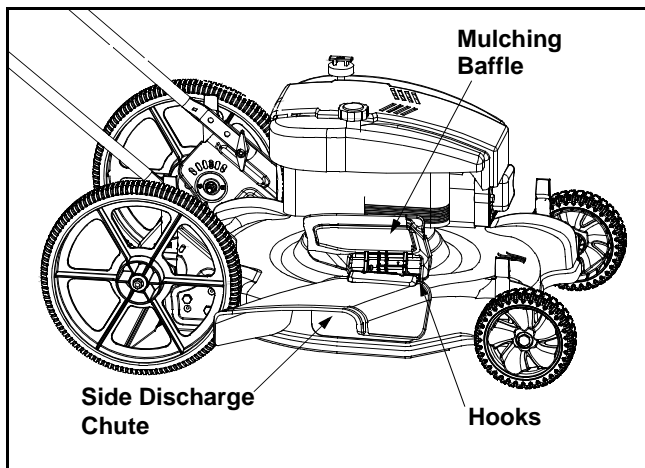

Figure 9
- Slide the hooks of the side discharge chute over the hinge pin on the mulching baffle. Make sure that the hooks snap into place, locking the chute firmly onto the mower. See Figure 9.